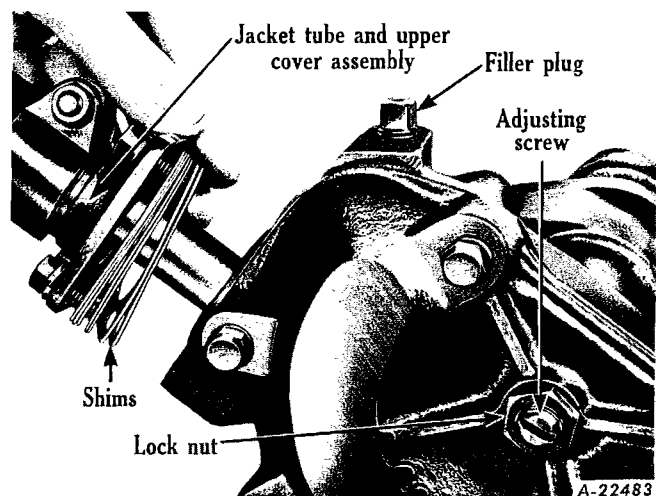

Fig. 5 - Showing location of shims under upper housing cover used to adjust end-play on cam. (Shims are of .002", .003", and .010" thickness)
- (c) Unscrew the four screws (3) and raise the housing upper cover (4) to permit removal of shims (5). (Shims are of .002", .003" and .010" thickness). (Fig. 5).